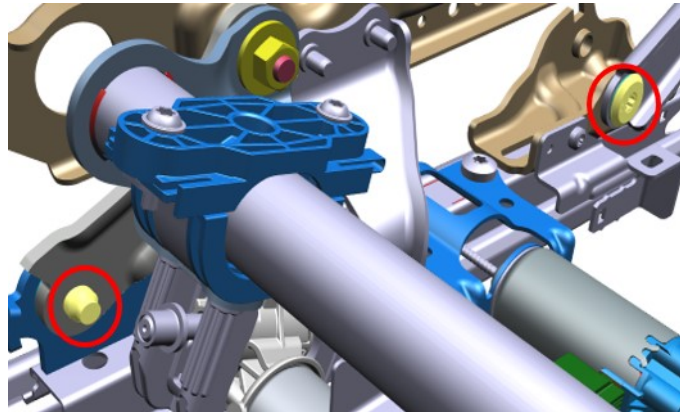
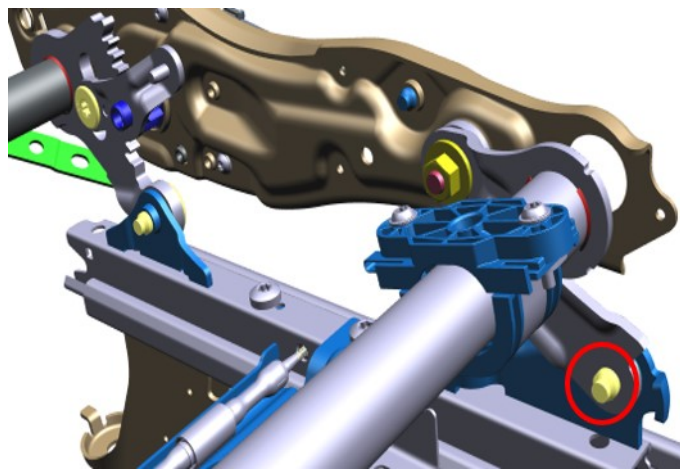

Fig. 3
Fig. 4
3. Verify correct bolt in three locations on seat frame. The use of a flashlight, mirror and/or camera phone will help to inspect the front inboard bolt head due to obstruction from the center console. The incorrect fasteners will have a flat surface with no taper on the outside diameter. Also will have no numbering or other markings. (Fig. 1) , (Fig. 2) , (Fig. 3) , (Fig. 4) ,